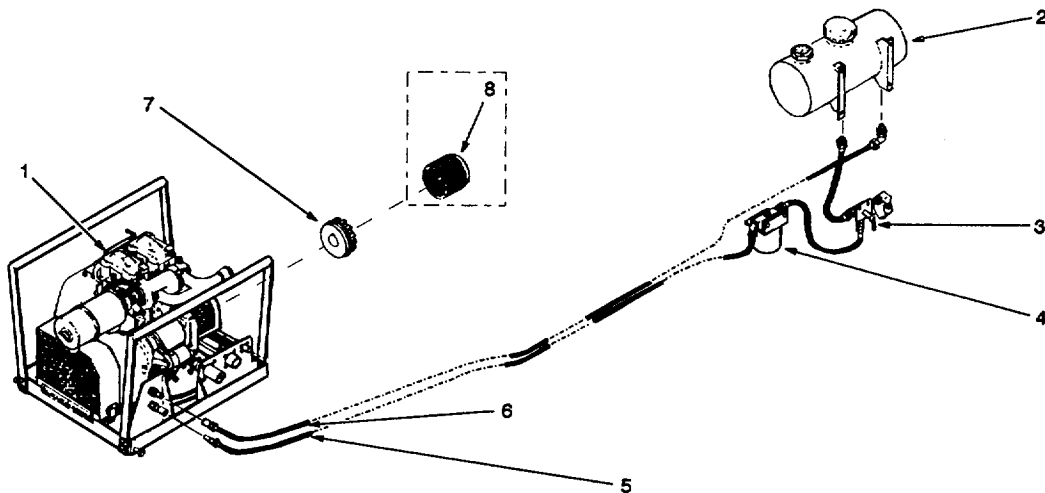

Figure 1-5. Power Subsystem
1.11.1 System Power. (Refer to figure 1-5.)